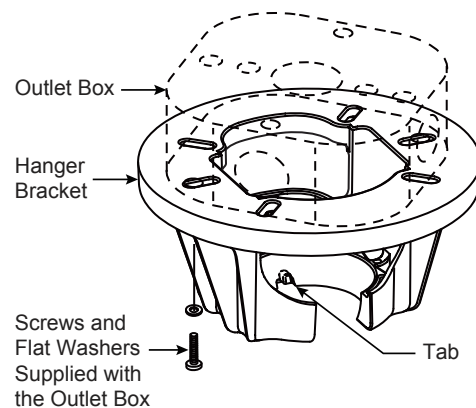
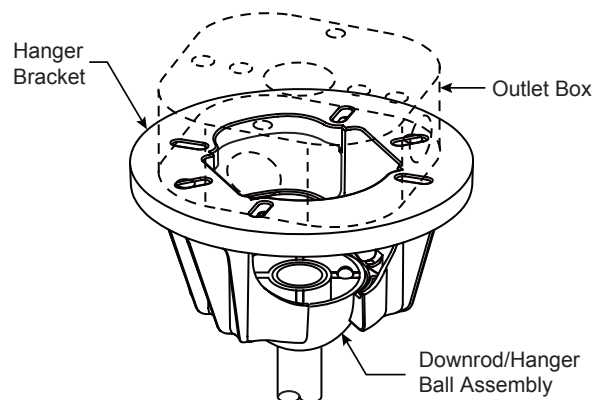

Figure 3
Figure 4
4. Slide downrod into the downrod support on top of the motor. Install the clevis pin by aligning the holes in the downrod support with holes in the downrod. Secure clevis pin with hairpin clip. Tighten the two set screws with nuts in the downrod support. Securely tighten the set screws with screwdriver then fully tighten the nuts by hex wrench. (Figure 4)
3. Carefully lift the fan and seat the downrod/hanger ball assembly onto the hanger bracket that was just attached to the outlet box. (Figure 4) Be sure the groove in the ball is lined up with tab on the hanger bracket. (Figure 3)
3. After connections have been made, put the white and green leads to one side and the black leads towards the other side, the connection should be turned upward and carefully push leads into the outlet box. The wires should be spread apart with the grounded conductor and the equipment-grounding conductor on one side of the outlet box and the ungrounded conductor on the other side. (Figure 4)
- 4. Connect the 2 single pin connectors from the LED assembly to the 2 single pin connectors from the motor assembly. (Figure 4)
6. Learning Process: (Figure 4)